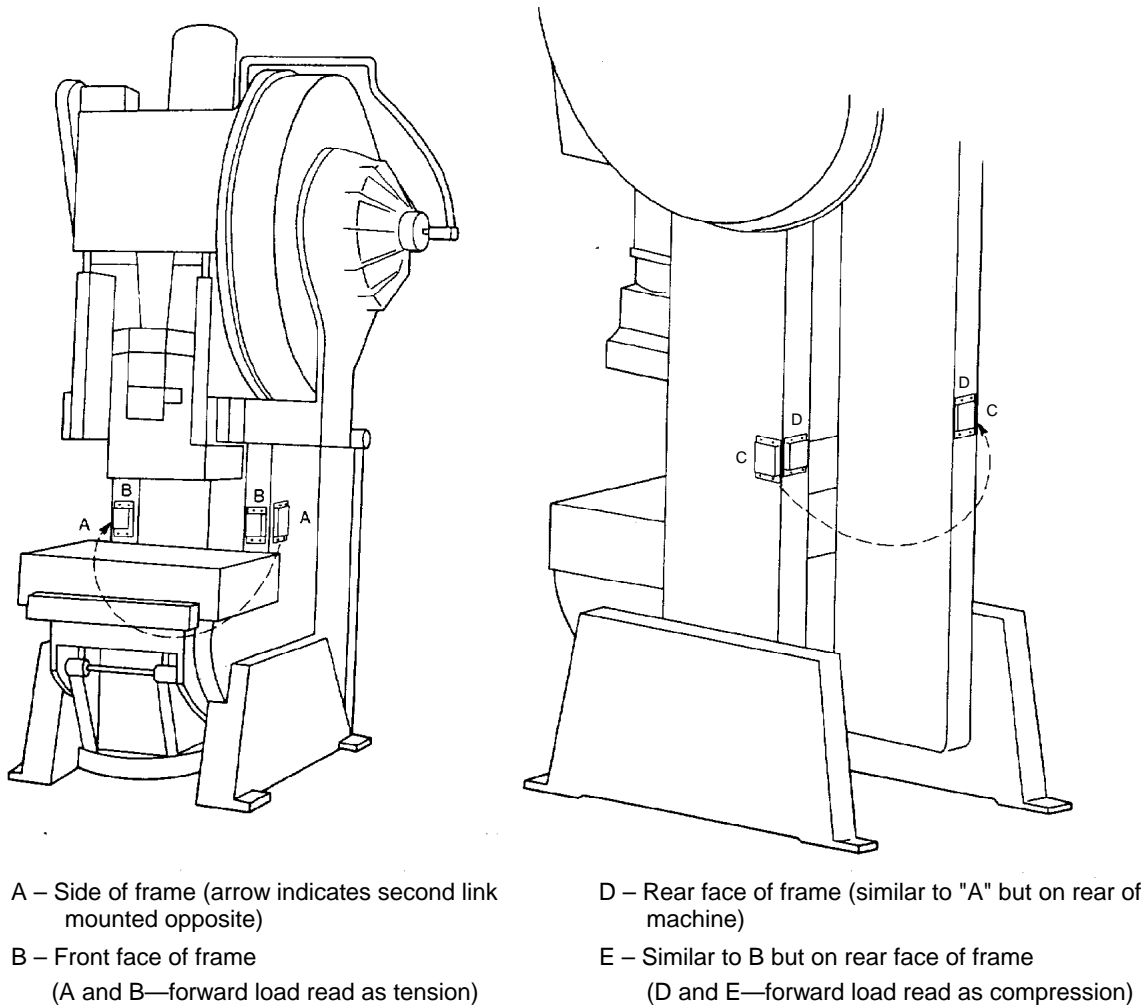

Figure 2-5. Strain link mounting options on OBI/OBG presses
1. Select mounting sites on the press for the strain links. On straight side presses, strain links are typically mounted on diagonal corners (one on front left, one on back right). They measure tension (stretching of the frame). For gap frame (OBI or OBG) presses, strain links can be mounted on the front of the press to measure tension or on the back of the press to measure compression. Usually mounting on back is better because the strain links are away from the work area. Typical strain link locations for most gap frame and straight side presses are shown in Figures 2-5 and 2-6.